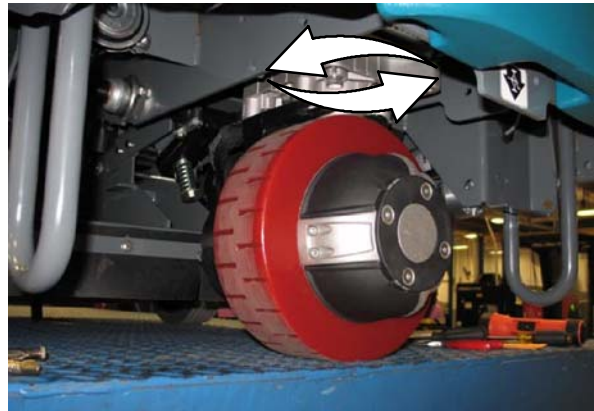

FIG. 7
1. To ensure the steering wheel is properly aligned after the new chain is installed, turn the front wheel assembly counterclockwise until the wheel assembly hits the stop and can be turned no farther. Refer to Fig. 7.